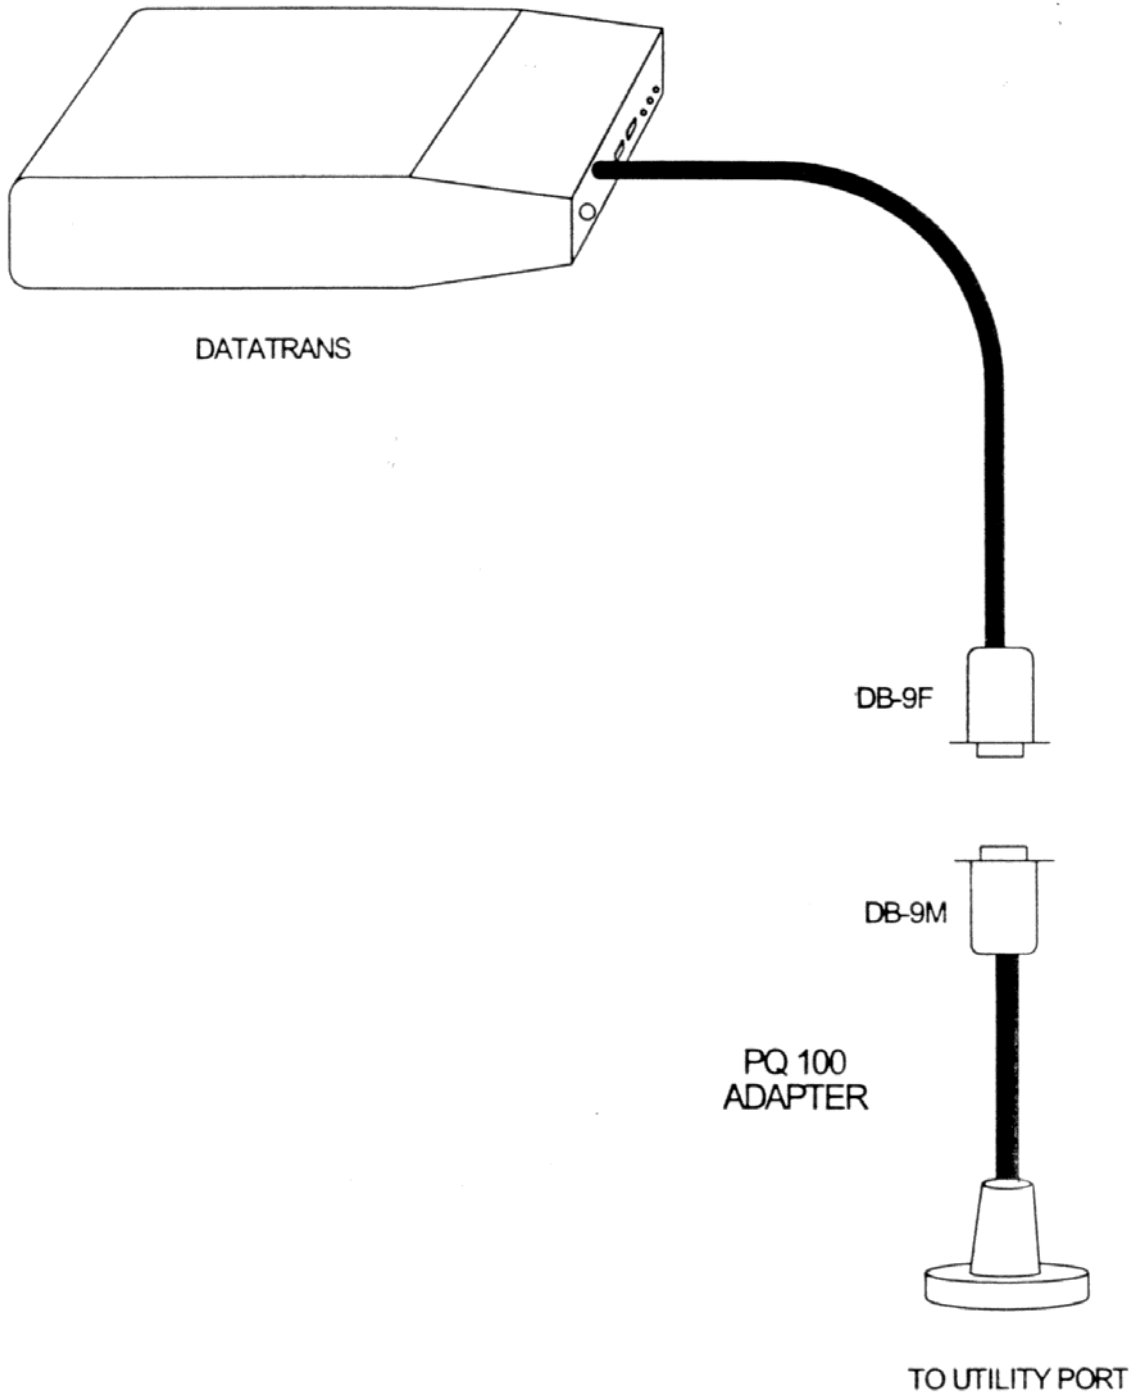

Figure M2. Datatrans with Adapter for use with PQ100
3. Attach the PQ100 Adapter to the Datatrans (See Figure M2) and plug the other end of the adapter into the Utility Port on the front panel of the PQ100.